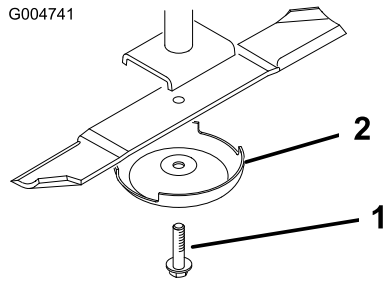

Figure 92
2. Grasp the end of the blade using a rag or thickly padded glove. Remove the blade bolt, anti-scalp cup, and blade from the spindle shaft (Figure 92).